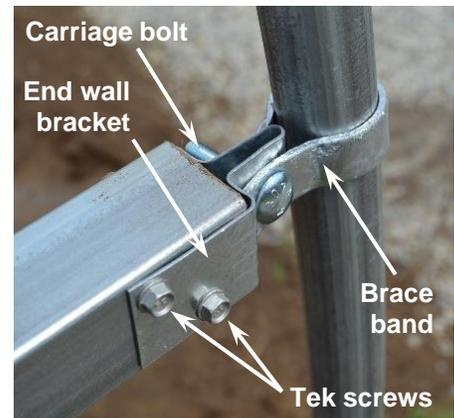

Figure 1: Secure horizontal beam to end wall bow.
2. Attach an end wall bracket to the end of two 12' 4" steel beams using the 1" Tek screws (see figure 1).
3. Use the end wall brackets to loosely attach these two vertical beams to the end wall bows, using the top brace band you previously installed, $1\frac{1}{2}$ " carriage bolts, and hex nuts (see figure 1). These will be the sides of your door frame, so space them just wider than the door you will be installing. Once the studs are plumb, tighten the bolts, and pack soil around the bottoms to hold them in place.